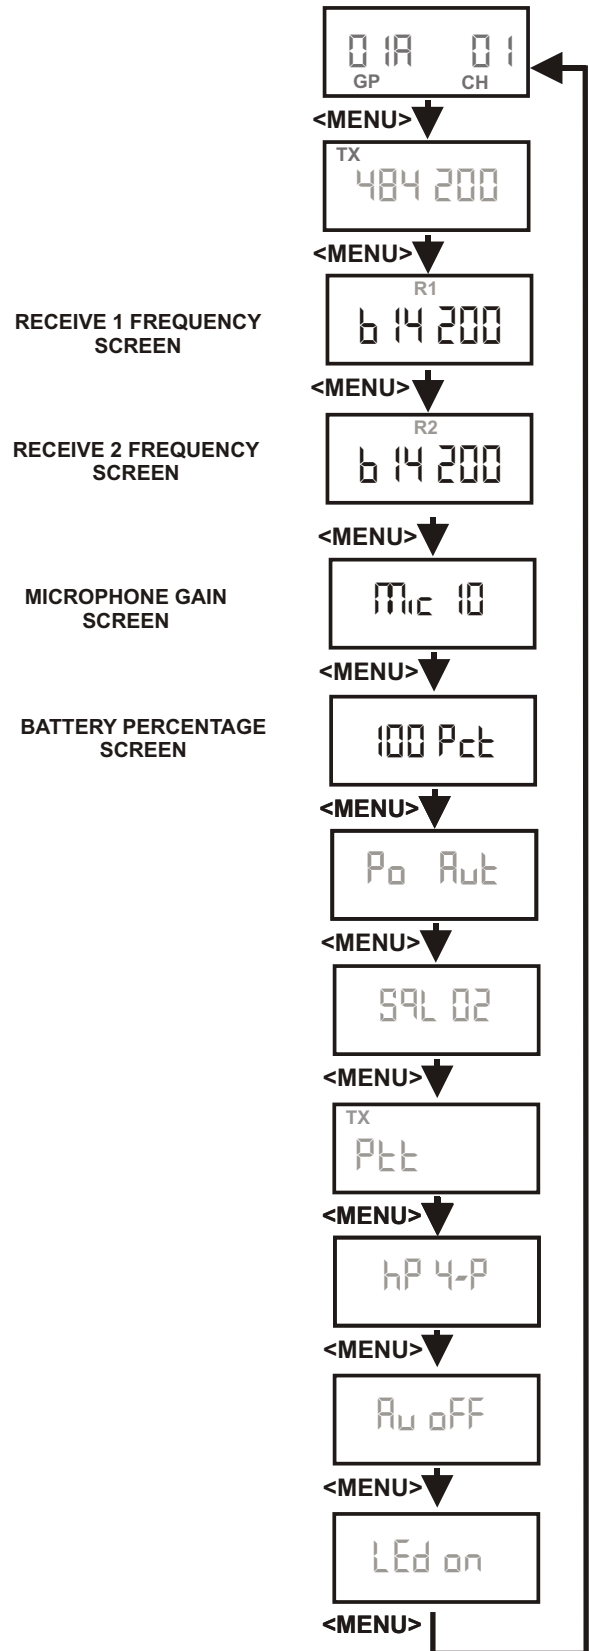

Figure 7-10
1. Set the unit to the desired user defined group and channels. See Groups and Channels Instructions. The menu structure at the right (Figure 7-10) indicates how to get to the receive frequency screen.